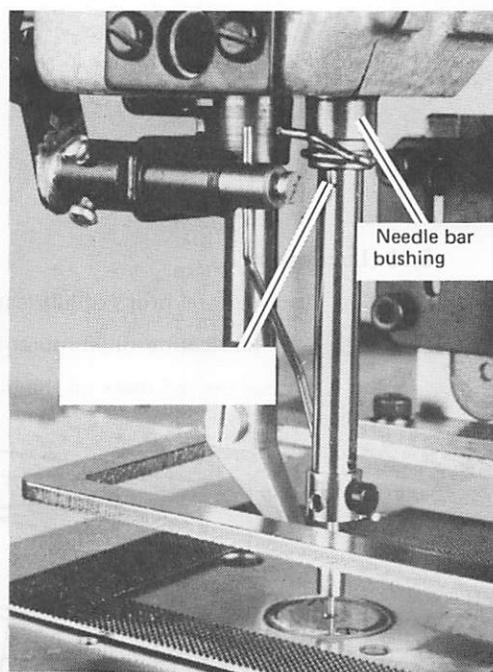

Fig. 10.3
- (2) The standard needle bar height is that the needle bar is at the lowest position when the upper timing mark on the needle bar is aligned with the lower end of needle bar bushing, as shown in Fig. 10.3.
- (2) To adjust, move the driver in forward or backward direction and position it so that gap between the driver and needle becomes zero. At the same time, it should be also adjusted in leftward and rightward direction. The standard position in leftward/rightward direction is that the hook point should come to the center of the needle when the lower timing mark on the needle bar (Fig. 10.3) meets the lower end of the needle bar bushing.